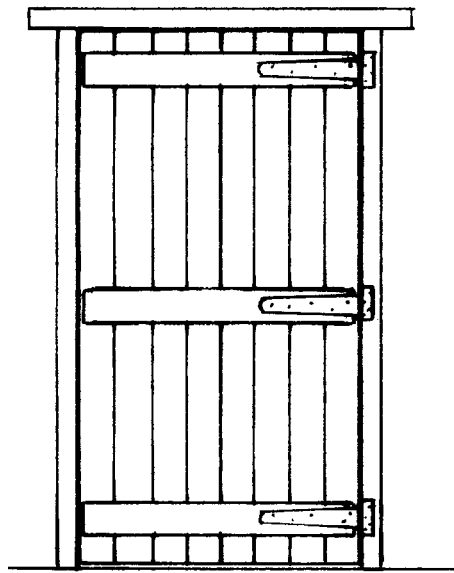

Fig. 7
29. A ledged, braced and battened door is to be provided to a garden area. Indicate on figure 7 the position of the braces.